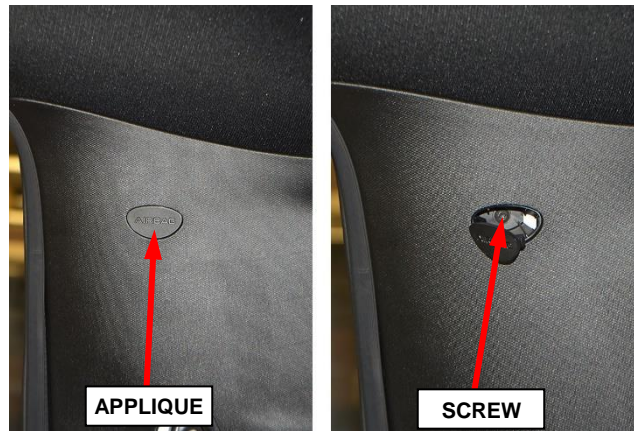

Figure 54 – C-Pillar Upper Trim Panel
22. Using a trim stick or equivalent, release the C-pillar airbag applique then remove the screw that secures the upper trim panel (Figure 54).
23. Release the upper retaining clips then tilt the upper portion of the C-pillar lower trim panel away from the C-pillar (Figure 54).
55. Install and tighten the screw that secures the C-pillar upper trim panel. Then install the airbag applique (Figure 54).